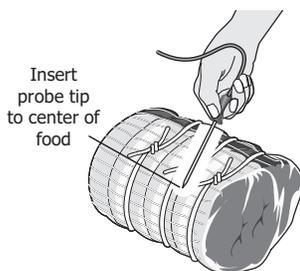

**Figure 34: Probe receptacle location/insertion point**
The probe receptacle is located at the top of the oven cavity as show in Figure 34.
**⚠ CAUTION** Handle the meat probe carefully when inserting and removing from food or probe receptacle. Do not use kitchen utensils, such as tongs, to pull on meat probe cable when inserting or removing from food or receptacle. Use the provided handle, as shown in Figure 34. To avoid possibility of burns after cooking, carefully unplug meat probe using a pot holder to protect hands.